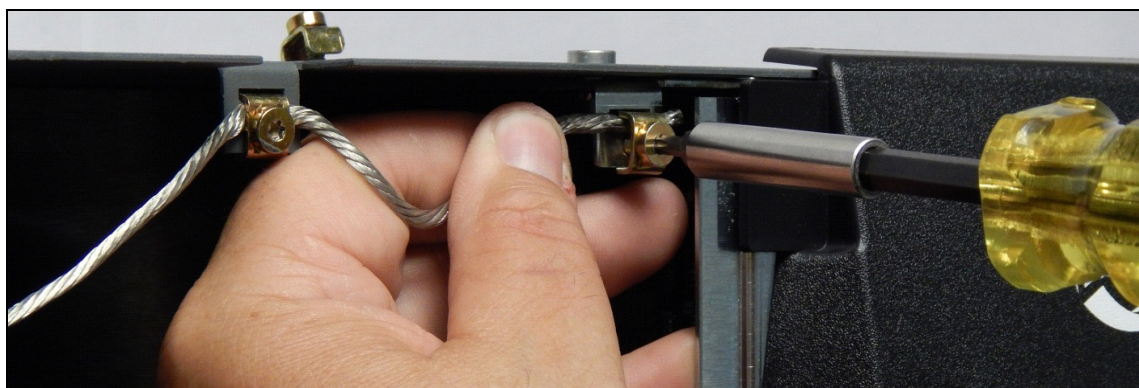

Figure 6. Remove Ground Wire from Display Door
- Figure 6. Remove Ground Wire from Display Door 6
6. Remove the Ground wire at the top of the Display door (see Figure 6).
22. Replace the ground wire to the Display door (see Figure 6).
9. Replace the ground wire to the Display door (ref. Figure 6).